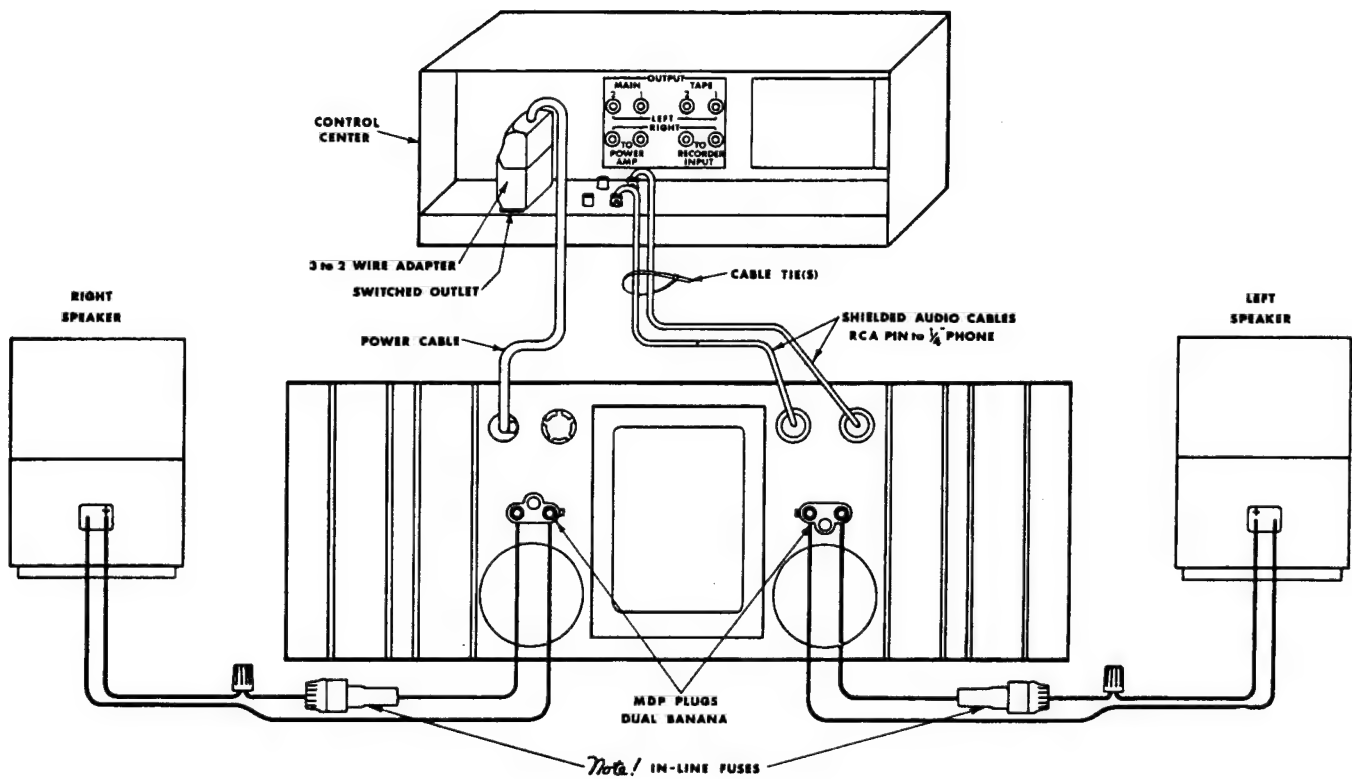

FIGURE 3-14
Input and output connectors are located on the back of the chassis as shown in Figure 3-14.
1. Remove output covers, exposing dual binding-posts. Two-conductor speaker cables must connect to the OUTPUTS using terminal lugs, tinned ends, or the special "banana" plugs supplied with the DC-300A. Connect the in-line fuses as recommended in the Accessory Bag and Figure 3-14. (Not needed with CROWN speakers.)